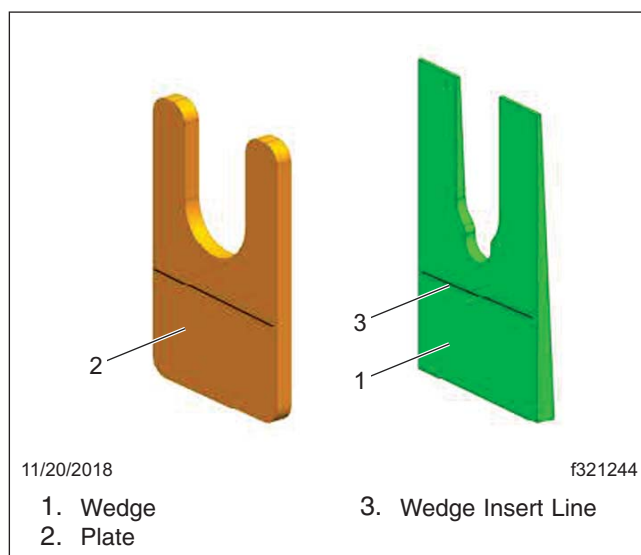
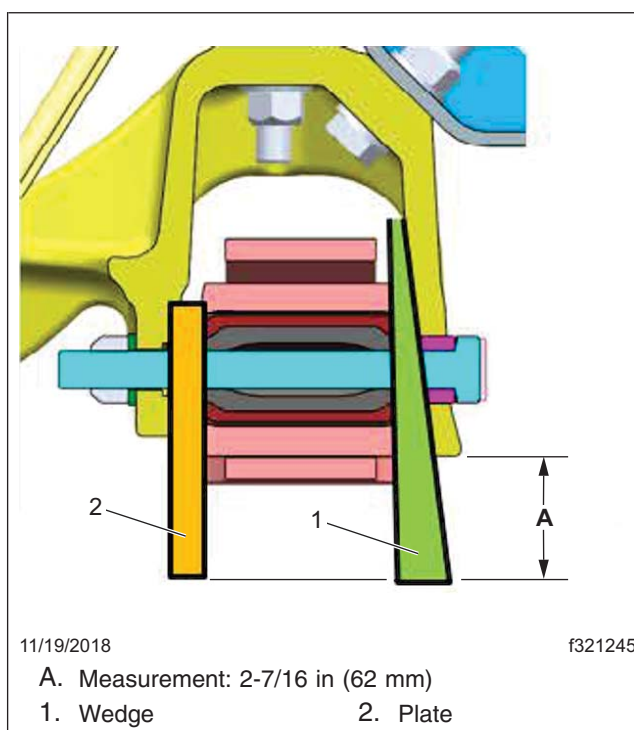

Fig. 4, Wedge and Plate (DKICHA018002)
Fig. 5, Wedge and Plate in Position
10. Insert the wedge on the outboard side and the flat plate on the inboard side of the spring eye. The insert line on the wedge (see **Fig. 4**, Ref. 3) should line up with the bottom of the hanger. If necessary, lightly tap the wedge into position by hand. Do not use a hammer. See **Fig. 5**.